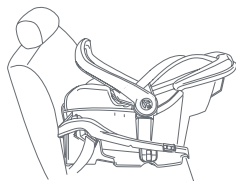

Fig. 51-1
- 1. Safety Seat with Base:** Make sure the vehicle is parked on level ground. Lock the Safety Seat onto the Base and check that the Safety Seat is level side to side on the vehicle seat (Fig. 51-1). Check the Seat Angle Indicator that matches the weight of your child.